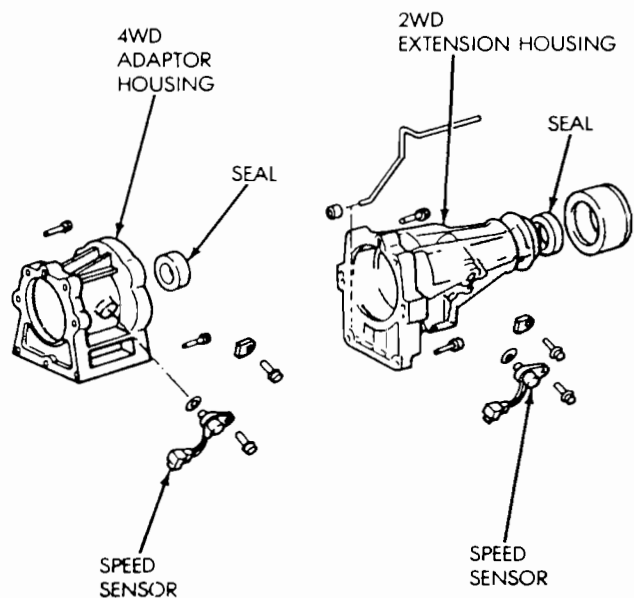

Fig. 39 Adaptor/Extension Housing Seals
- (1) Raise vehicle.
- (2) On 2WD or 4WD models, disconnect or remove components necessary to gain access to the seal (e.g. propeller shaft, crossmember, shift linkage, transfer case, exhaust components, hoses, wires).
- (3) On 2WD models, remove seal from adaptor housing (Fig. 39).
- (4) On 4WD model, remove dust shield and remove seal from extension housing (Fig. 39).
- (5) Install new seal with appropriate size seal installer. On 4WD models, also install dust shield.
- (6) Reinstall components removed to gain access to seal.
- (7) Top off transmission fluid if necessary.